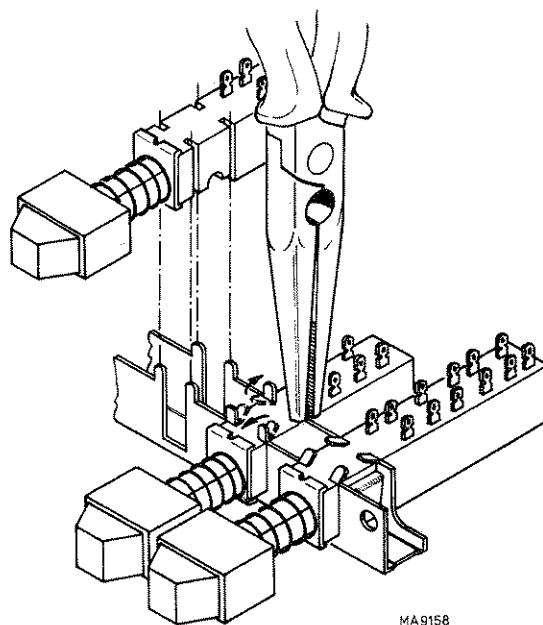

Fig. 3.24. Replacing a push-button switch
- Straighten the 4 retaining lugs of the relevant switch as shown in Fig. 3.24.